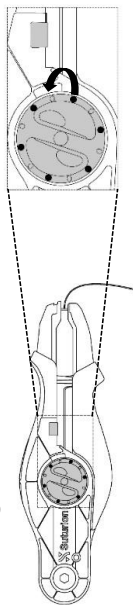

Figure 3
2. Turn the adjustment wheel one mark counterclockwise (see Figure 3).